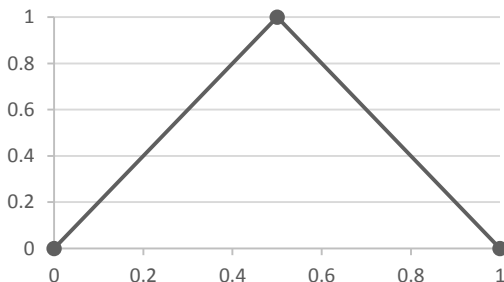

Figure 6 - Amplitude example
This defines the amplitude *'AMPLITUDE'* with three data points, where 'x' is the step time for the input and 'y' is the input value to be multiplied with the load value. For example the values (0,0), (0.5,1) and (1,0) would apply the load fully (1) halfway in the step, with complete unloading at the end of the step (0), illustrated in figure 6.